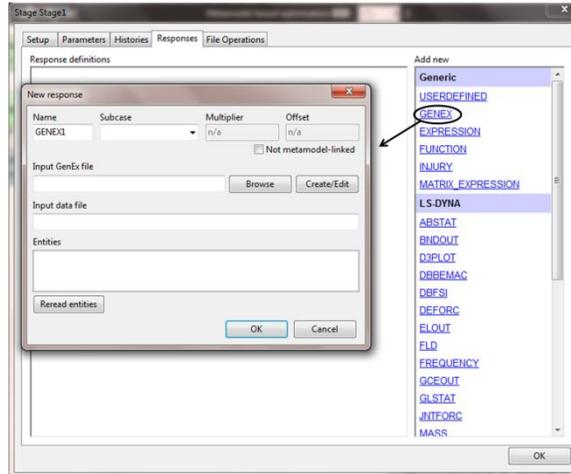

Figure 1: GenEx response dialog box
4. Instead of choosing LS-DYNA responses, the responses are defined using GenEx tool i.e. using 'GENEX' option available under generic list of options within 'Histories' and 'Responses' tab of *Setup* dialog box. Defining histories/responses using GenEx requires an input data file and a .g6 genex file as shown in Figure 1.